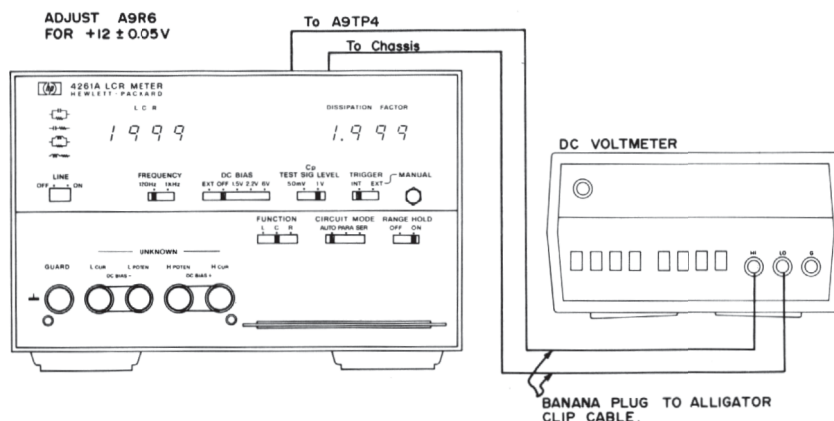

Figure 5-1. Power Supply Voltage Adjustment.
- Connect voltmeter plus input to 4261A test point A9TP4 and minus input to 4261A chassis with dual banana plug to alligator clip cable. See Figure 5-1.